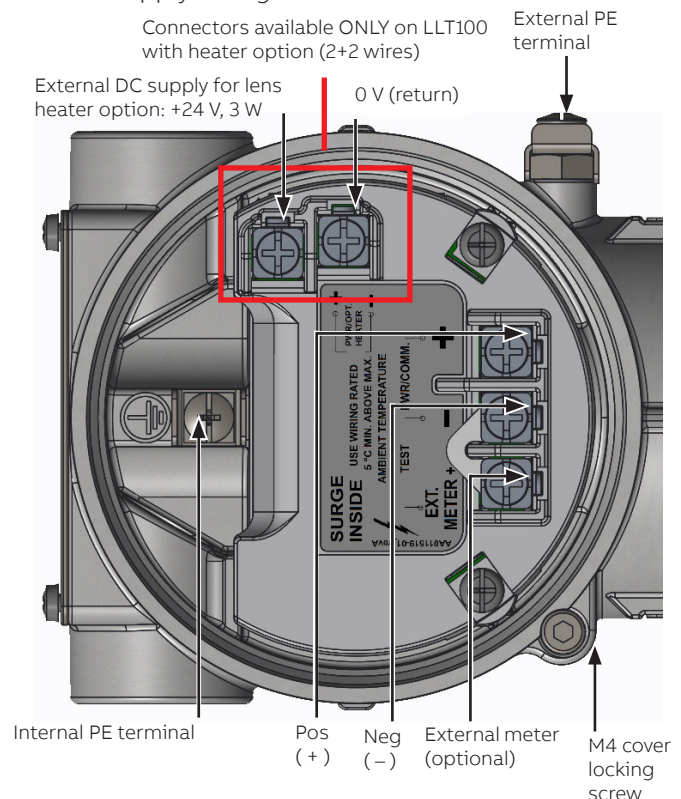

Figure 5 LLT100 terminal compartment (back of LLT100 unit, with cover off)
Both faces of the electronics housing feature a M4 locking screw (hex-head socket screw) on the bottom side (see Figure 5).
Protective earth (PE) terminals are available inside and outside the instrument housing (see Figure 5 on page 9). These terminals are electrically connected.